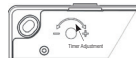

Fig 5
2. To REDUCE operating time, use a small screwdriver to turn the adjuster (Fig 5) ANTI-CLOCKWISE.
3. To INCREASE operating time, use a small screwdriver to turn the adjuster (Fig 5) CLOCKWISE.
Humidity control switching is enabled when either an existing, or new, fan switch (switch not supplied), is switched ON (Fig 5).